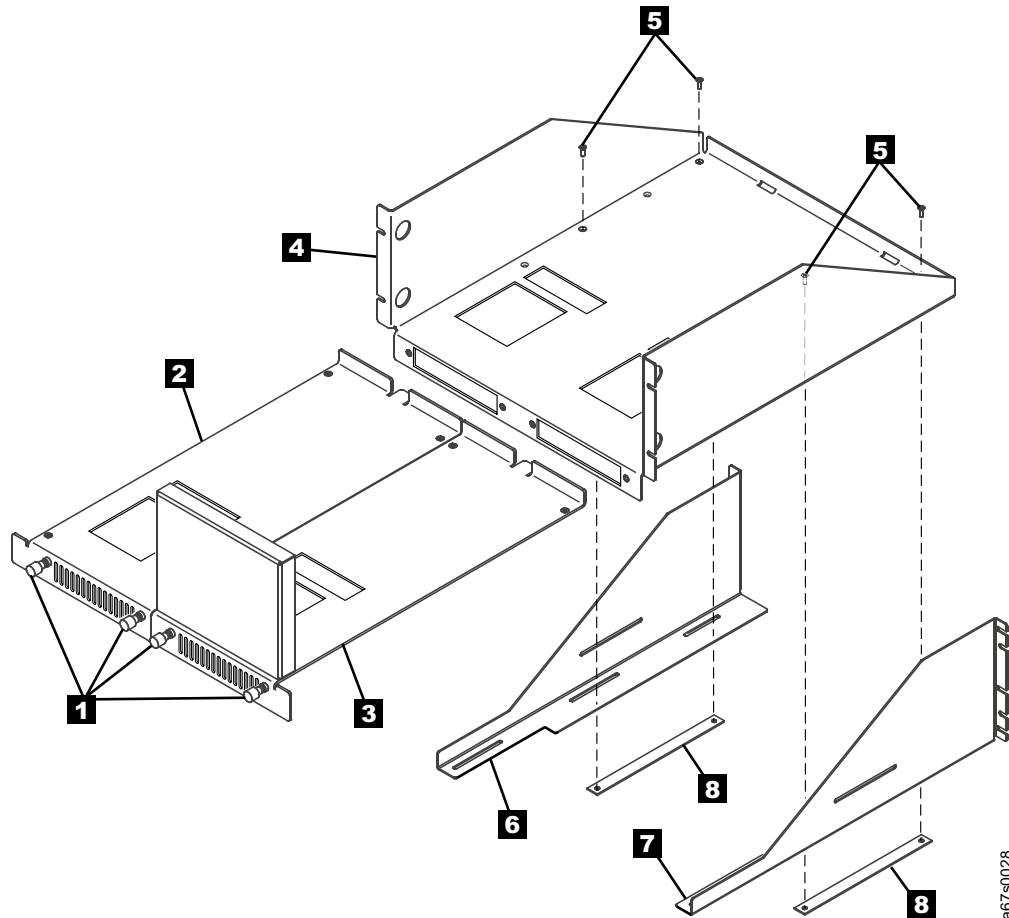

Figure 37. Preparing the rackmount tray for installation into the rack
1. Loosen the four thumbscrews (see **1** in Figure 37) on the left and right sleds (**2** and **3**) by turning them counterclockwise, then remove the sleds from the rackmount tray **4**.